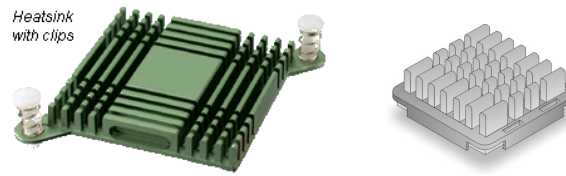

Figure 3-14: Heatsink with Clips
- The use of lightweight finned external passive heatsinks can be effective for dissipating up to 8 Watts on some packages. If implemented with forced air as well, the benefit can be a 40% to 50% reduction as illustrated in the XCV1000E-FG680 example. The more efficient external heatsinks tend to be tall and heavy. When using a bulky heatsink, it is advisable to use spring-loaded pins or clips to reduce heatsink-induced stress on the solder joints of the component as these pins or clips help transfer the mounting stress to the circuit board. The diagonals of some of these heatsinks may be designed with extensions to allow direct connection to the board (see Figure 3-14).